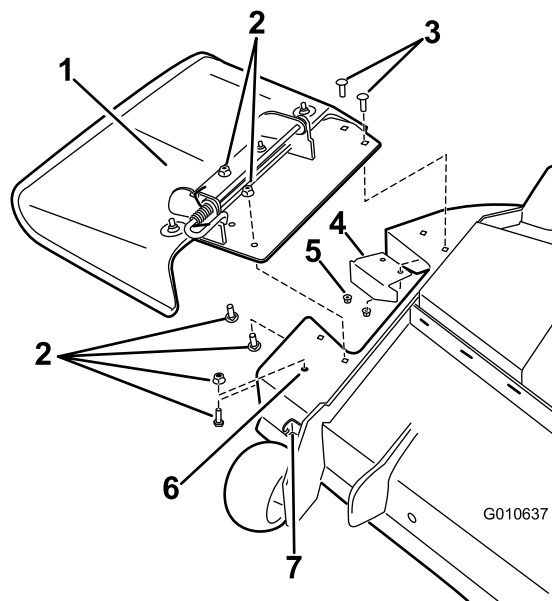

Figure 15
2. Remove the discharge tube from the machine install and the discharge cover(Figure 15).